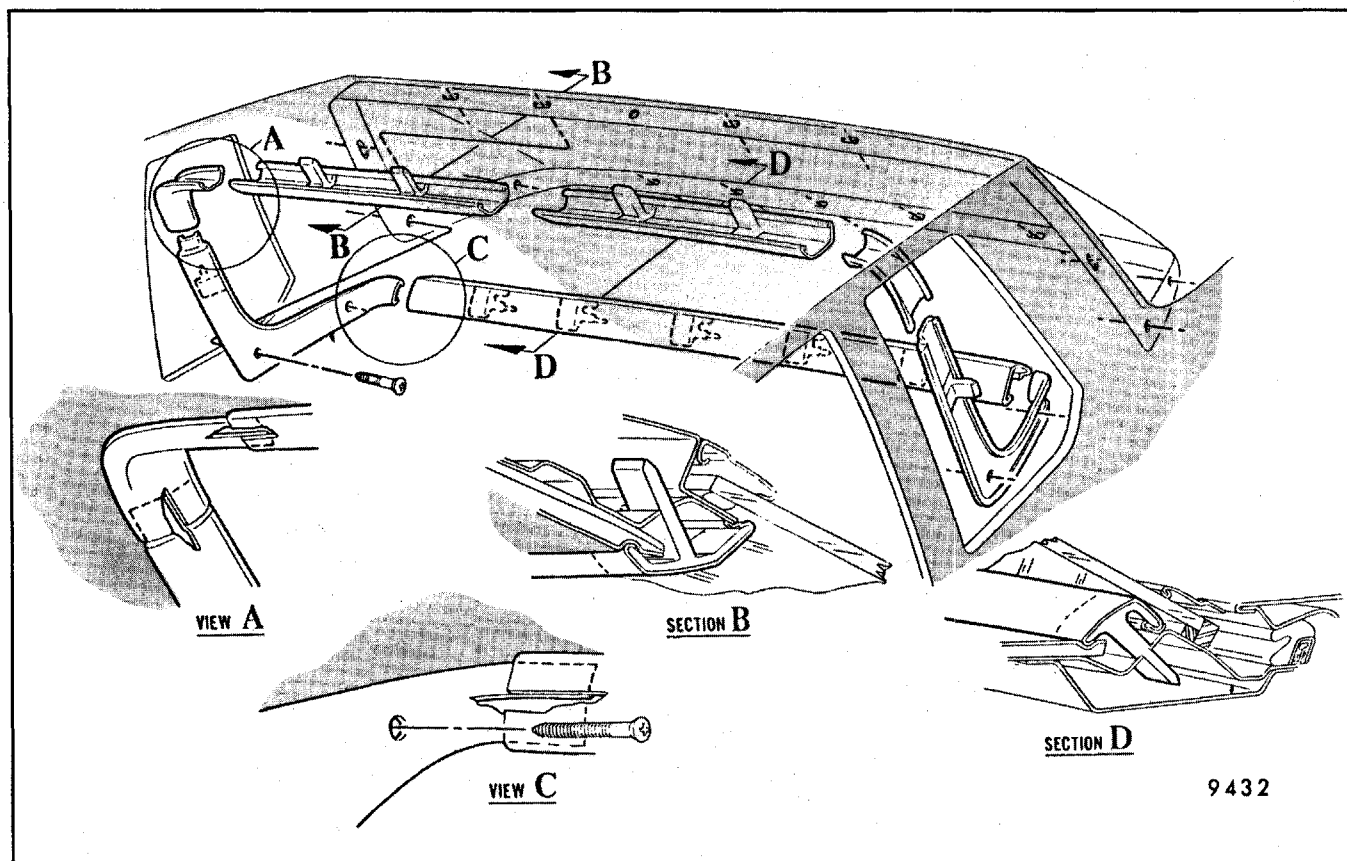

Fig. 9-78 - Back Window Garnish Moldings "B-37-69" Shown (Other Styles Similar)
2. On other than screw attached moldings, nylon clips secure the molding by engaging in slots or holes in the compartment front panel or rear seat to back window panel (Fig. 9-78).